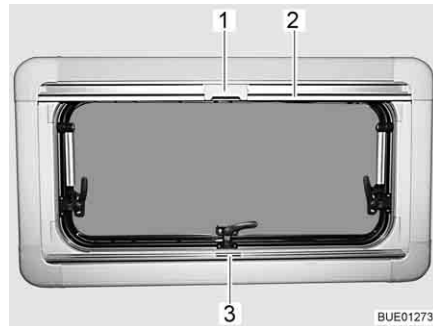

Fig. 85 Hinged window
*Closing:* ■ Grip the Roman shade using the holding bar (Fig. 85,3), pull it from the bottom to the top and then release it at the desired height. The Roman shade will stay at this height.
*Closing:* ■ Pull the insect screen down using the holding bar (Fig. 85,2), until it touches the holding bar of the Roman shade (Fig. 85,3).
■ Clip the catch (Fig. 85,1) on the insect screen into the handle of the Roman shade.
*Opening:* ■ Push the catch (Fig. 85,1) on the insect screen inwards.
■ Move the insect screen back slowly on the holding bar (Fig. 85,2).